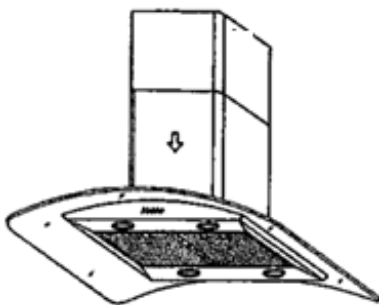

Figure 14
- Unscrew the 2 screws G and rest the lower chimney piece above the hood. (Fig 14)